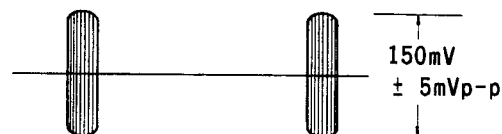

Fig. 3-12
- 8) Adjust RT102 so that the burst section in record chroma signal is $150\text{mV} \pm 5\text{mV}_{\text{p-p}}$. (Fig. 3-12)